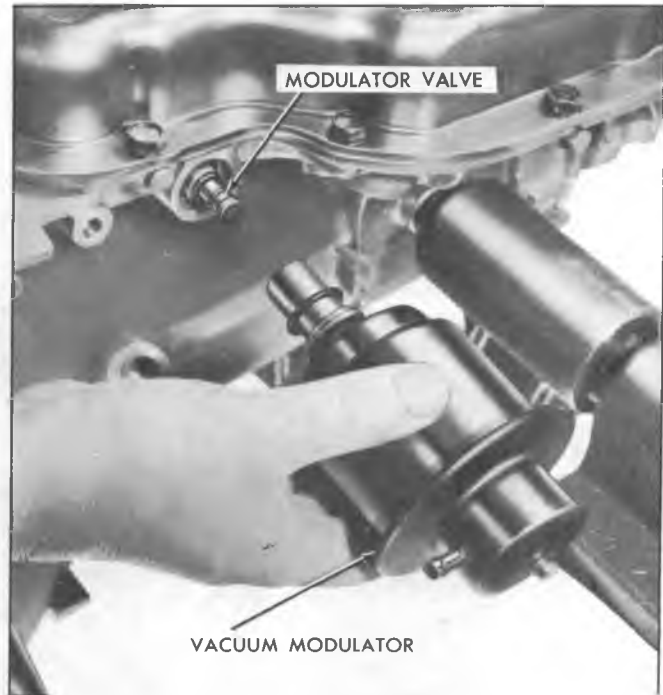

Fig. 4T--Removing Vacuum Modulator and Valve
5. Remove vacuum modulator assembly and "O" ring seal from case (fig. 4T). Discard "O" ring.
6. Remove modulator valve from transmission case (fig. 4T).